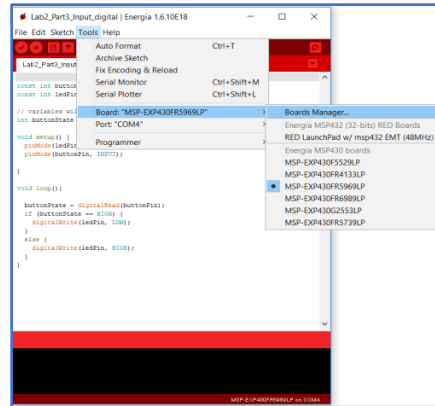

Figure 2. Energia board selection.
Step 6: Next you will need to tell Energia the name of the microcontroller you will be programming. Go to tools at the top of the screen and select RED Launchpad w/ MSP-432... as shown below in Figure 2.